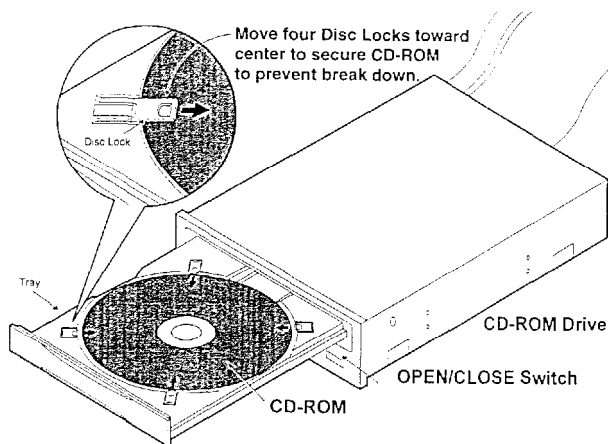

Figure 11: CD-ROM Installation
31. Power-up the game and set the CD-ROM into CD-Drive. (See Figure 11)
33. Set the CD-ROM. Secure the CD-ROM with Disc Locks (See Figure 11)